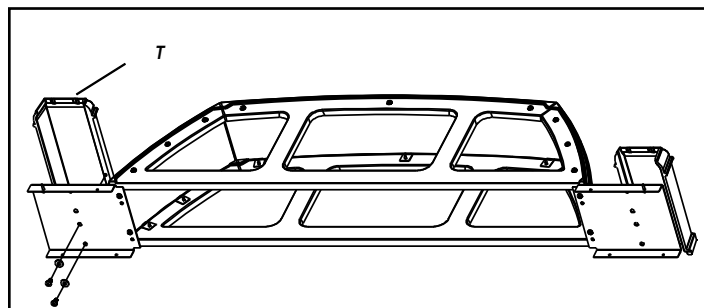

Figure 18.4
7. Attach cast footers. **Figure 18.4.**